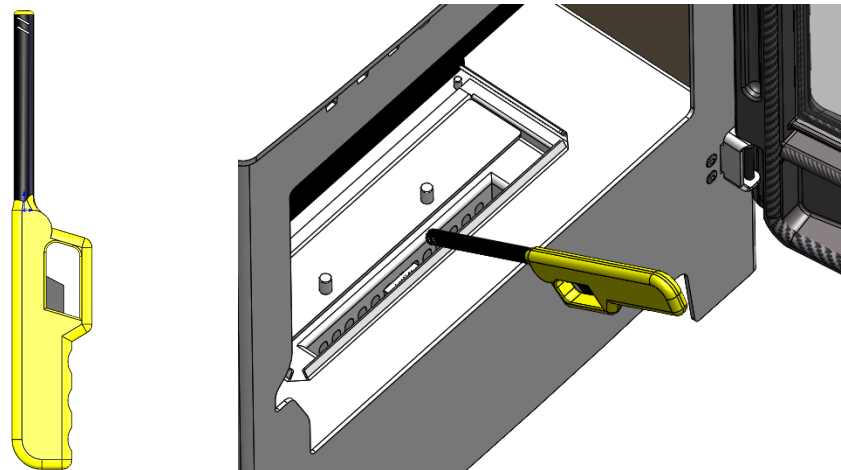

Fig. 14.
- Using a long match or we recommend a long reach gas lighter, ignite the burner. See Fig. 14.